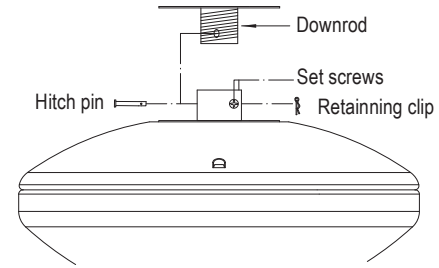

Fig. 6
Step 4. Route wires exiting from the top of the fan motor through the coupler cover, canopy cover, canopy, decoration ring and then through the ball/downrod. (Fig. 6)
Step 5. Align the holes at the bottom of the downrod with the holes in the collar on top of the motor housing (Fig. 6). Carefully insert the hitch pin through the holes in the collar and downrod. Be careful not to jam the pin against the wiring inside the downrod. Insert the locking pin through the hole near the end of the hitch pin until it snaps into its locked position, as noted in the circle inset of Fig. 6.
Step 6. Tighten two set screws on top of the fan motor firmly. (Fig. 6)